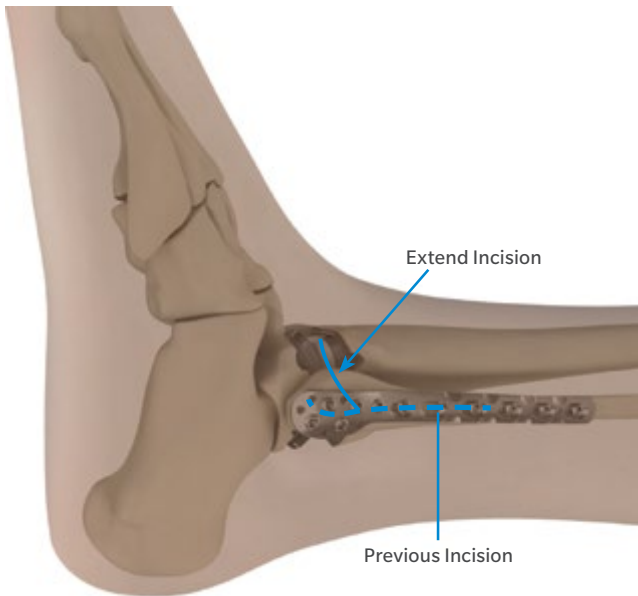

Fig. 99
- Extend the lateral incision from the primary surgery to expose the dorsal aspect of the joint to ensure full access to the anterior locking mechanism (Fig. 99).